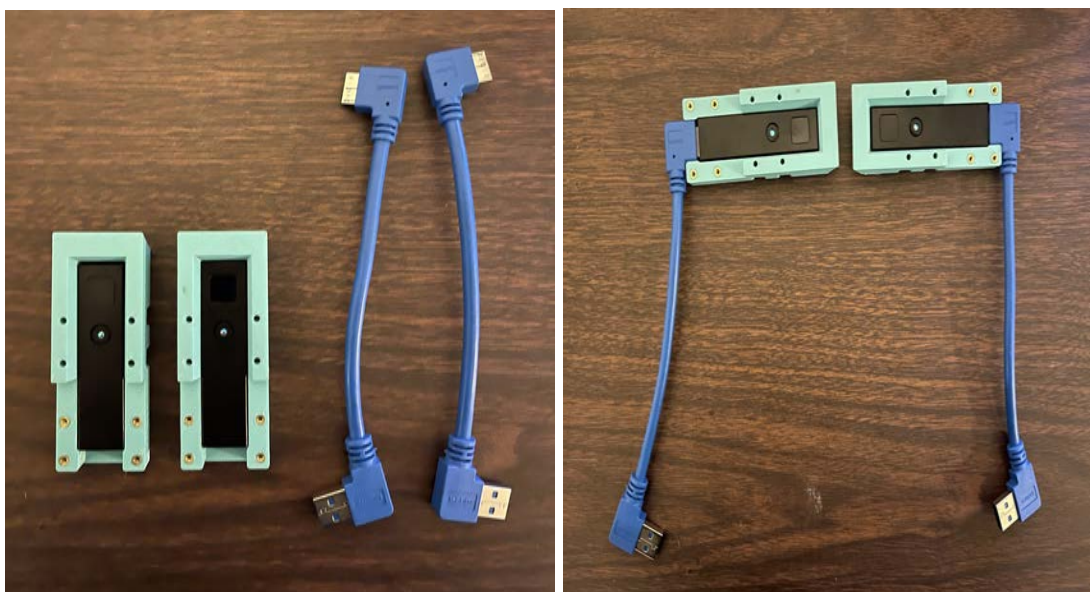

Figure 69: Right and Left USB cables inserted into Pico Flexxes
7. Insert each USB into a pico flexx in the Pico\_Case\_Back assembly (Fig 69).